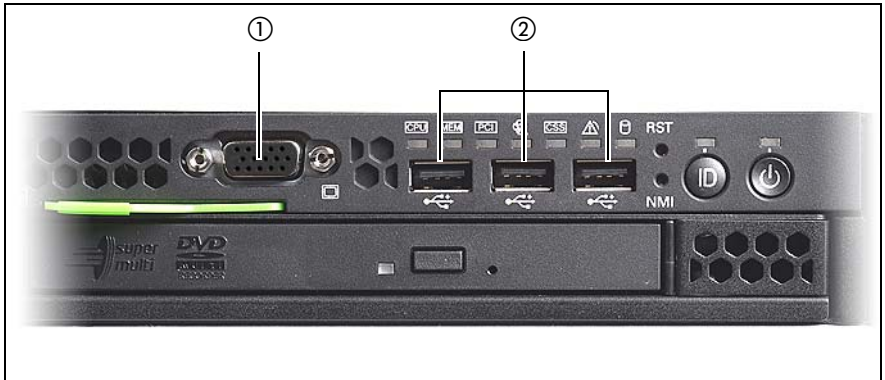

Figure 9: Connectors on the front
One video connector (1) and three additional USB connectors (2) are located on the front of the server (figure 9):